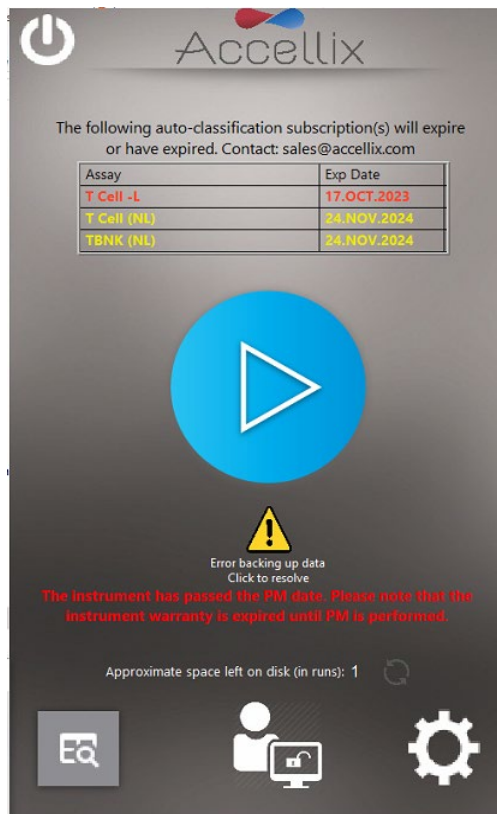

Figure 15: Home screen with login enabled, showing subscription status, Recopy Button and PM status
Note: If auto-classification subscriptions are enabled and an assay's subscription is due to expire within the next 6 weeks, the assay's name and expiration date will appear in **yellow** in a table above the blue Start button. If an assay's subscription has already expired, the assay name and expiration will appear in **red** (Figure 15).
Note: If any files were not successfully copied to the backup location, a yellow warning triangle button with an exclamation mark (!) will appear below the blue **Start** button (Figure 15). Clicking this button will display the Show Errors screen (see section 12.4 Error Handling Functions).
Note: If the Preventative Maintenance (PM) date has passed for an instrument, a warning will appear below the blue **Start** button (Figure 15). Please contact Accellix support to schedule the maintenance as soon as possible.